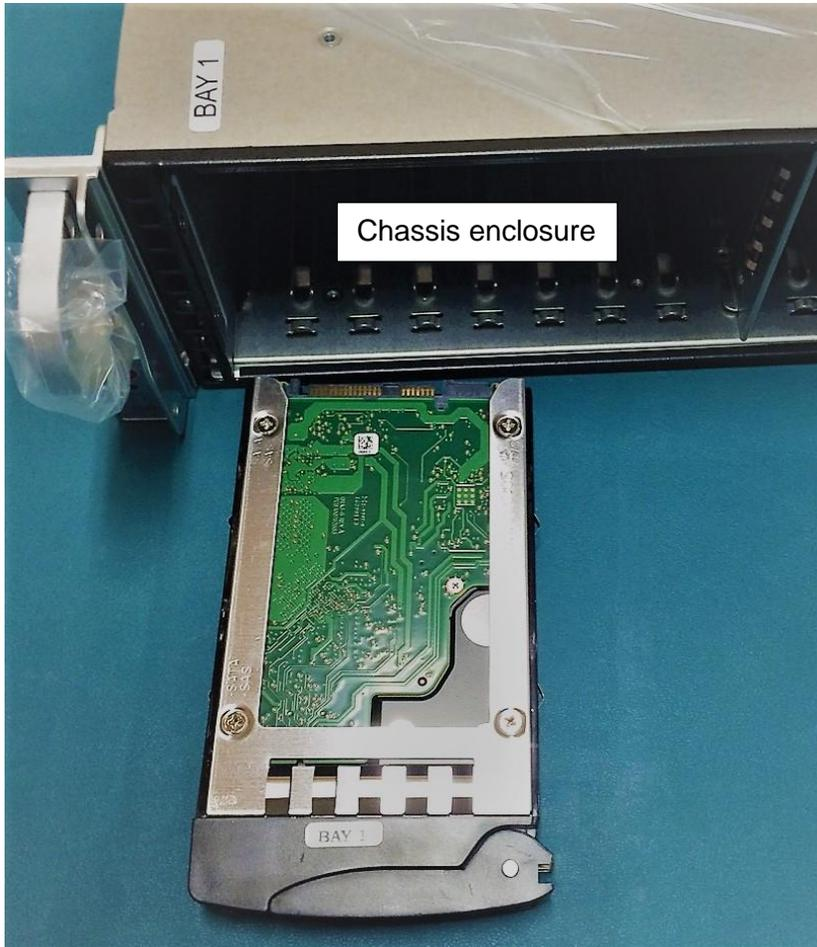

Figure 1.2: Hard drive and chassis enclosure with BAY 1 stickers.
1. Identify the hard drive BAY 1 sticker with the chassis enclosure BAY 1 sticker, as shown in Figure 1.2.